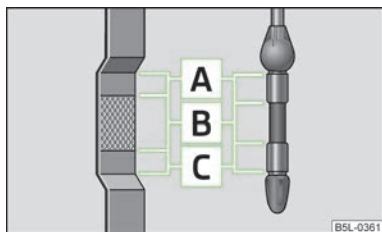

Fig. 142
The dipstick indicates the level of oil in the engine » Fig. 142.
- The oil level must on no account extend beyond the range **A** » Fig. 142. Risk of damaging the exhaust system!